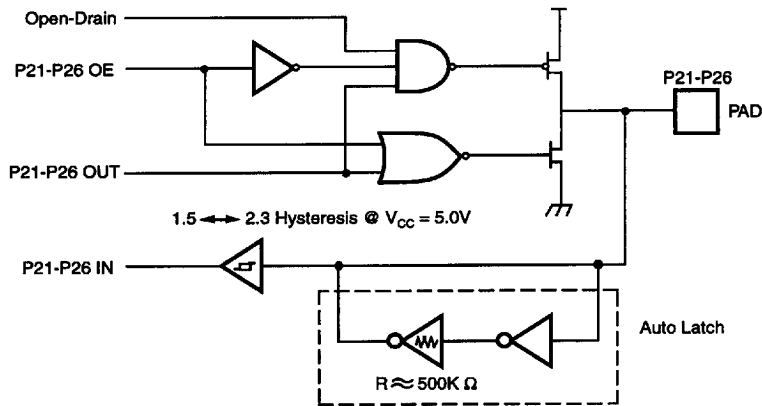

Figure 5-10a. Port 2 Configuration with Open-Drain Capability, Auto Latch, and Schmitt-Trigger
Port 2 can be an 8-bit, bidirectional, CMOS- or TTL-compatible I/O port. These eight I/O lines can be configured under software control to be an input or output, independently. Input buffers can be Schmitt-triggered, level-shifted, or a single trip point buffer and may contain Auto Latches. Bits programmed as outputs may be globally programmed as either push-pull or open-drain. Low-EMI output buffers can be globally programmed by the software, an OTP program option, or as a ROM mask option. In addition, when the SPI is featured and enabled, P20 functions as data-in (DI), and P27 functions as data-out (DO). Please refer to specific product specifications for exact input/output buffer type features available. See Figures 5-10a through 5-10c.